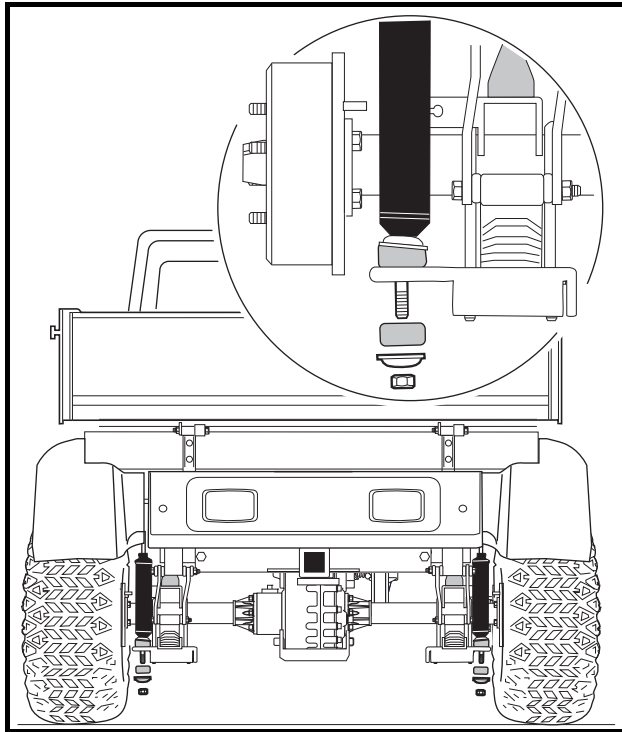

**Figure 16-39 Governor Cable Bracket**
8. Install the governor cable bracket on transaxle case and tighten the mounting screws to 134 in-lb (15.1 N·m) (**Figure 16-39, Page 16-17**).